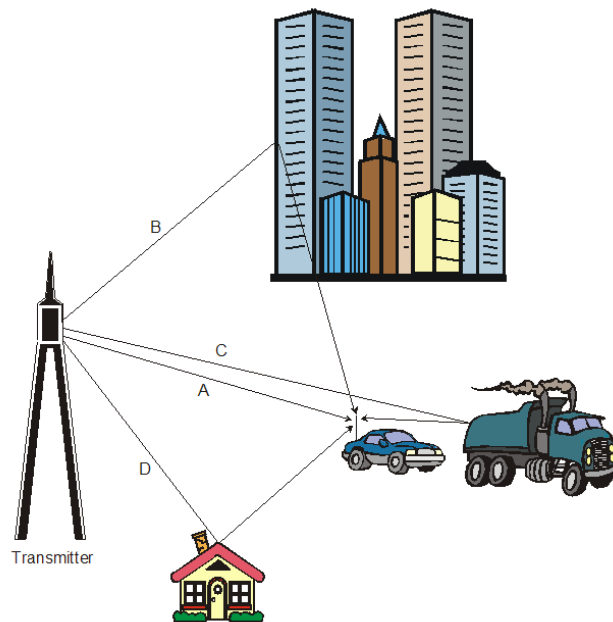

Figure 3-1: Typical Multi-path Fading Scenario
The radio propagation effects can be characterized by fast fading (also known as multi-path fading), relative path delay, relative path loss, and slow shadow fading (also known as log-normal fading). Different mobile environments generate various combinations of these effects. The cause of each of these characteristics will be discussed along with their effect on the transmitted signal. All of these characteristics can be demonstrated with a simple transmitter to receiver diagram. Figure 3-1 is a diagram of a typical mobile receiver (the car) as it drives along a roadway. Paths A, B, C, and D depict just four of the many signal paths from the transmitter to receiver.
Multiple versions of the originally transmitted signal display on the receiver; each having taken a different route (A-D) through the radio propagation channel, as shown in Figure 3-1. Because the macroscopic signal paths take a different route through the topology of the environment, they each travel a different distance from transmitter to receiver. This difference causes the paths to arrive at the receiver staggered in time and at a different average power level.
Relative path delay is a phenomenon where individual signal paths from the transmitter to the receiver arrive at different times. An example of this is shown in Figure 3-1 between Paths (A) and (C). Path (C) arrives at the receiver (the automobile) a finite time after signal Path (A). The net effect of the arrival time difference is to spread the originally transmitted signal at the receiver in time. In a digital wireless communications this causes received symbols to overlap; resulting in inter-symbol interference.